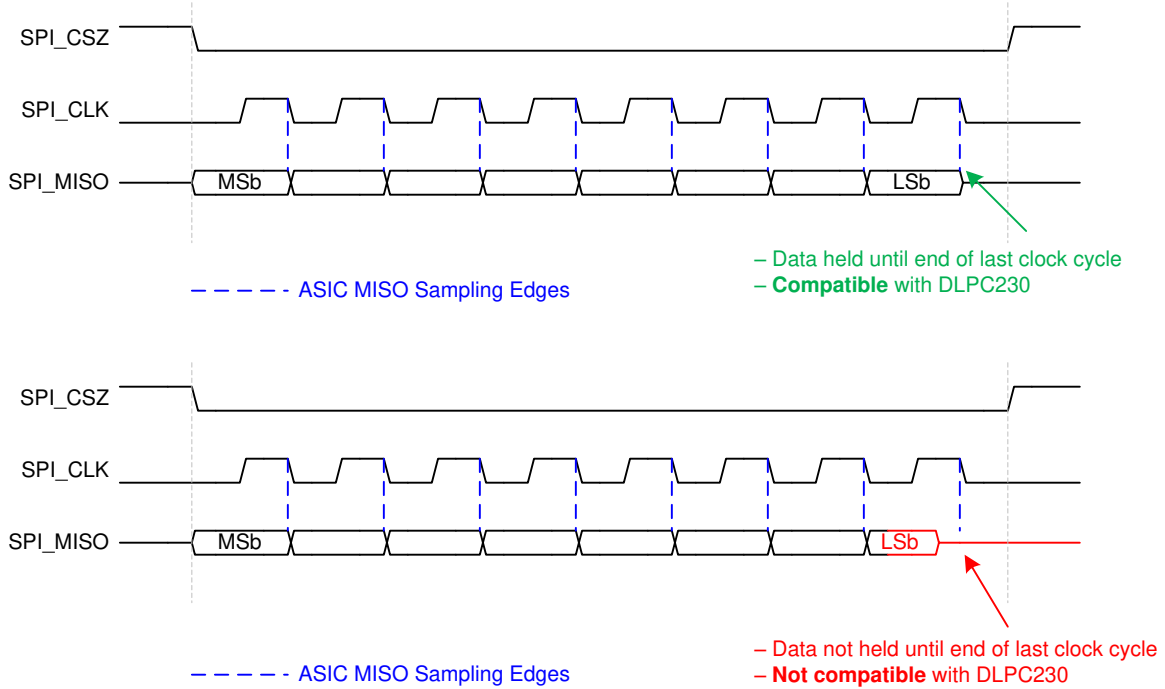

图 5-8. Flash Interface Data Capture Requirements
- (1) The DLPC23x-Q1 communicates with flash devices using a slight variant of SPI Transfer Mode 0 (that is, clock polarity = 0, clock phase = 0). Instead of capturing MISO data on the clock edge opposite from that used to transmit MOSI data, the DLPC23x-Q1 captures MISO data on the same clock edge used to transmit the next MOSI data. As such, the DLPC23x-Q1 Flash SPI interface requires that MISO data from the flash device remain active until the end of the full clock cycle to allow the last data bit to be captured. This is shown in 図 5-8.
- (2) The actual maximum clock rate driven from the DLPC23x-Q1 can be slightly less than this value.